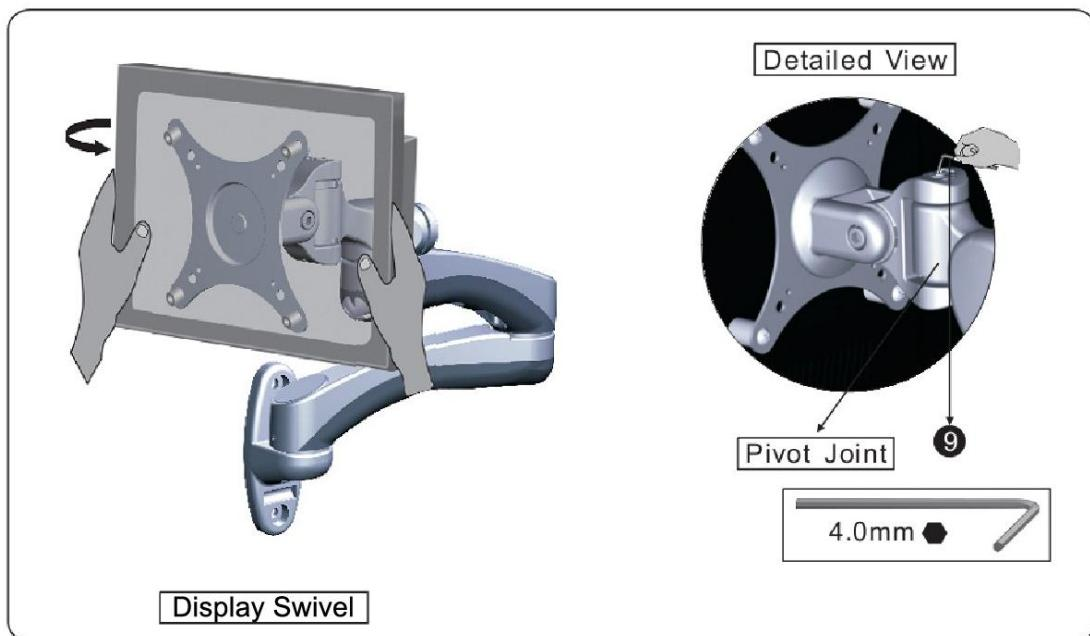

Figure 5-3
4. To increase or decrease the resistance of the Pivot Joint to suit display monitor swivel, adjust the Tension Hex Cap Screw located on the front side of the Wall Mount LCD Arm to secure the position (**See Figure 5-3**).
5. To increase the resistance, tighten the M5x15mm Tension Hex Socket Cap Screw using Allen Wrench 4mm (9) in a clockwise direction. To decrease the resistance, loosen the M5x15mm Tension Hex Socket Cap Screw using Allen Wrench 4mm (9) in a counterclockwise direction.